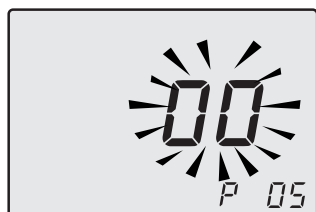

Fig. 8.5
- Scroll the various parameters using keys 15 or 16 until the letters **P05** are displayed on the LCD display, indicating that "parameter 05" (Fig. 8.5) has been activated.